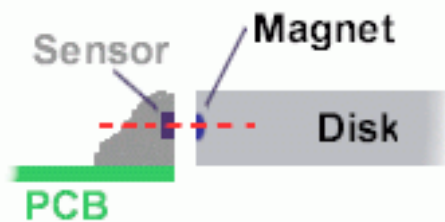

Figure 7 Ensure correct alignment of magnet disk and sensor.
- Take care that the magnets in the disk are approximately in the same height as the sensor, see figure 7.